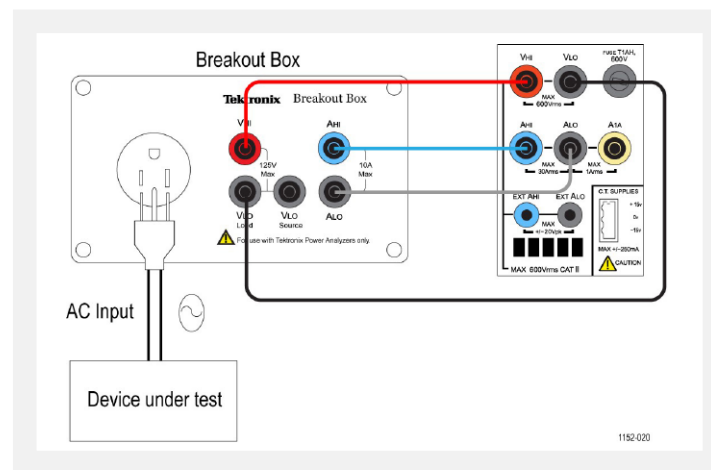

Figure 5-1. Inrush current measurement wiring diagram.
- Connect the DUT using a Tektronix BB1000 Breakout Box as shown in the wiring diagram. (See Figure 5-1.)